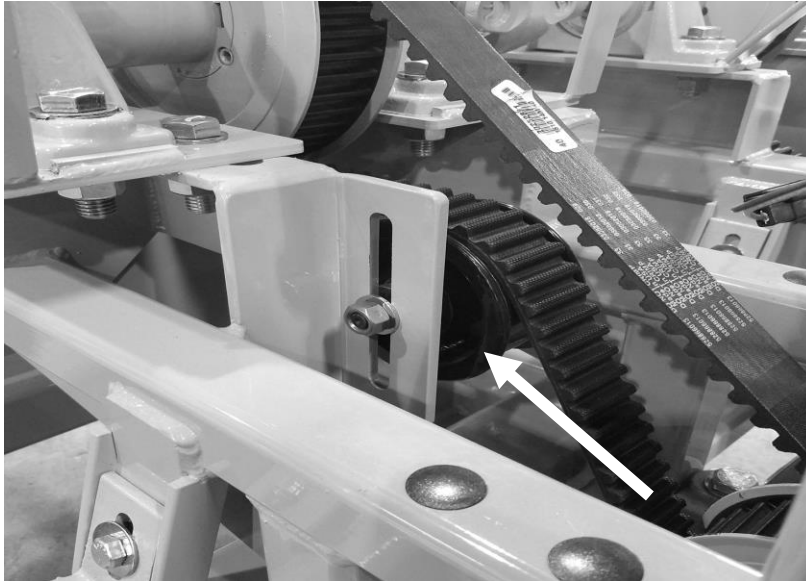

Figure 3—View showing tensioner pulley for the left cutter head.
3. The tension on the drive belt for the left cutter head is adjusted using the tensioner pulley (**Figure 3**)
7. Slide the tensioner pulley (**Figure 3**) upward against the bottom of the drive belt to tighten the belt. Tighten the belt until approximately $\frac{1}{2}$ inch of deflection is present in the center of the top belt run using moderate finger pressure. Securely tighten the tensioner pulley fastener.